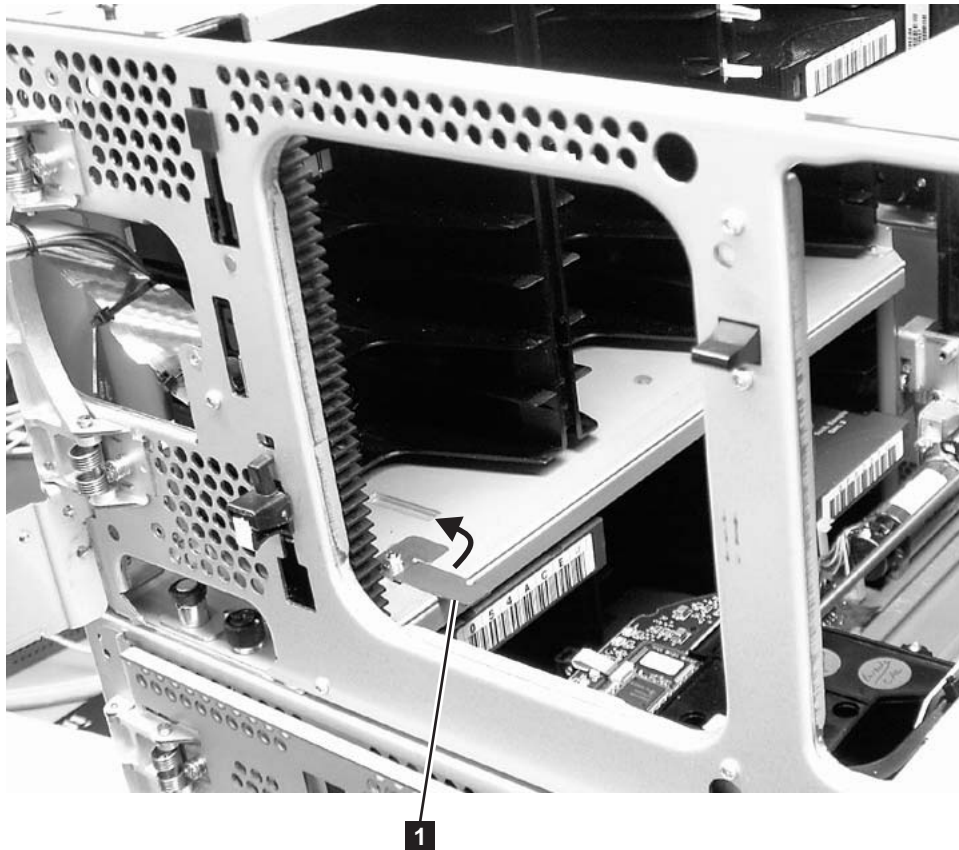

Figure 3-34. Releasing the picker assembly lock mechanism
3. Manually raise the picker assembly while you release the lock mechanism (**1** in Figure 3-34).